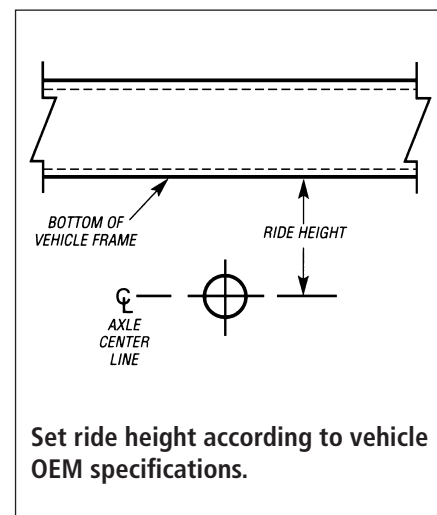

Figure 5
1. Set ride height according to vehicle OEM specifications. (See Figure 5)